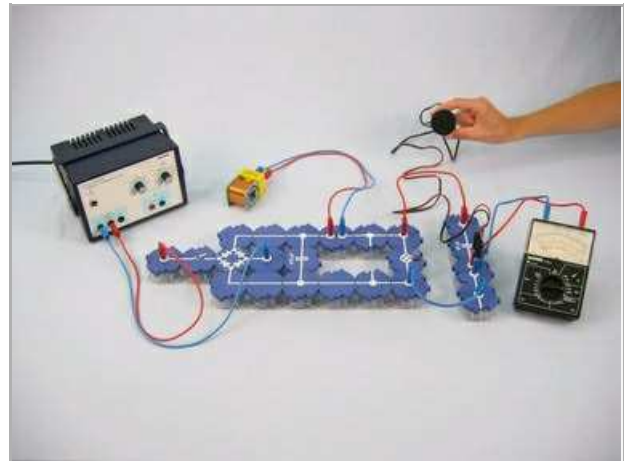

Fig. 4
- Add one coil with 400 turns to the circuit as shown in Fig. 4. Note the volume in the headphones and measure the current once again. Note the results.